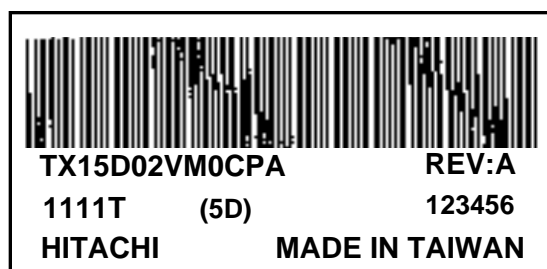

Fig. 14.2
4) The location of the lot mark is on the back of the display shown in Fig. 14.2.